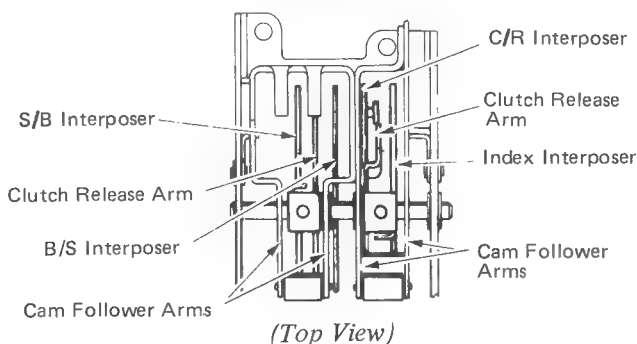
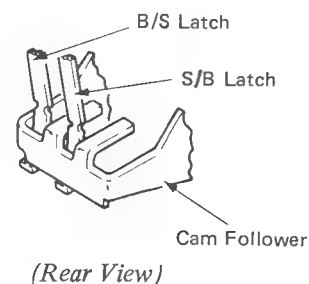

Figure 7
Figure 8
- (NRB/S) Position the index and carrier return interposers between the cam follower arms (Figure 7).
- c. (NRB/S) Position the backspace and spacebar interposers and clutch release arm between cam follower arms (Figure 7) with the latches in their slots and under the cam follower bail (Figure 8). The clutch release arm extension should be between the interposers (Figure 7).